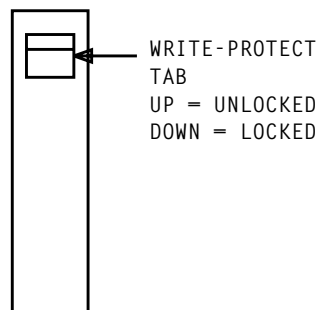

Figure 1. 4-mm Tape
2. See Figure 1. Put write-protect tab in the up (unlocked) position.